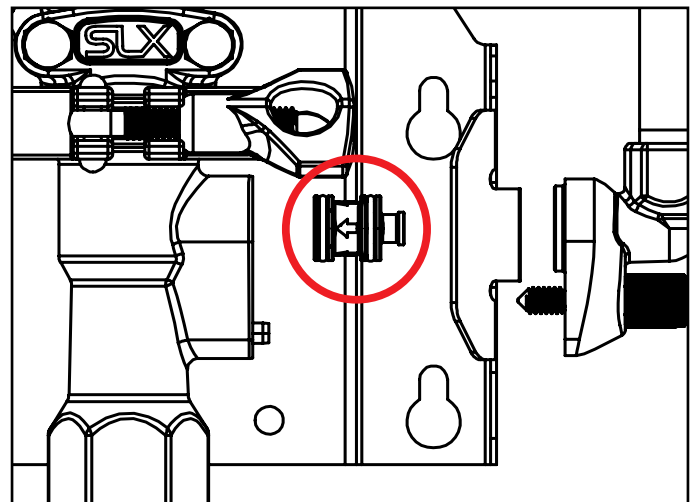

Fig. 9.3: SLX Check Valve at air inlet (correct orientation)
5. The check valve will be seated either inside of the elbow or the body. Grab it and pull to remove. [Fig 9.3]